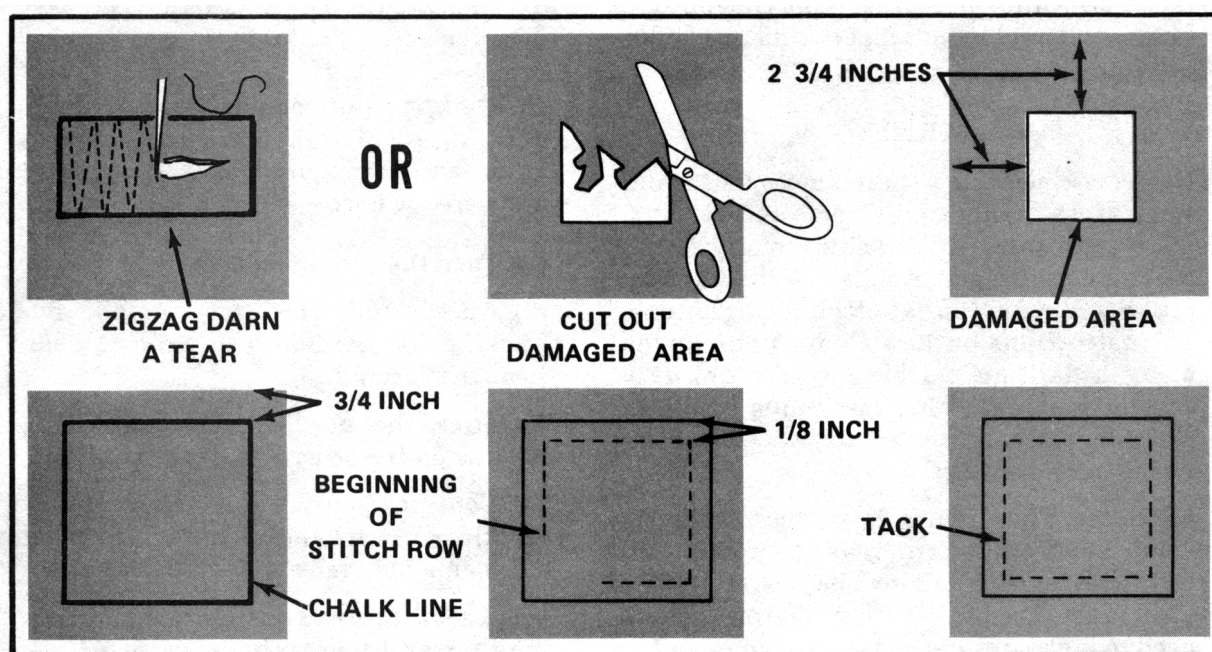

Figure 9-2. Simple canvas top patch
(1). Simple Canvas Top Patch. A simple canvas top patch (Figure 9-2) is sewn to the top side of canvas. It is the easiest patch to make and to attach to damaged canvas. To make the simple canvas top patch--